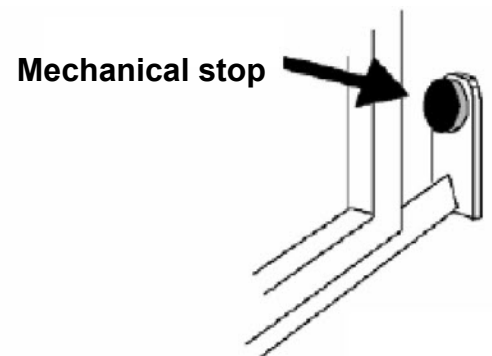
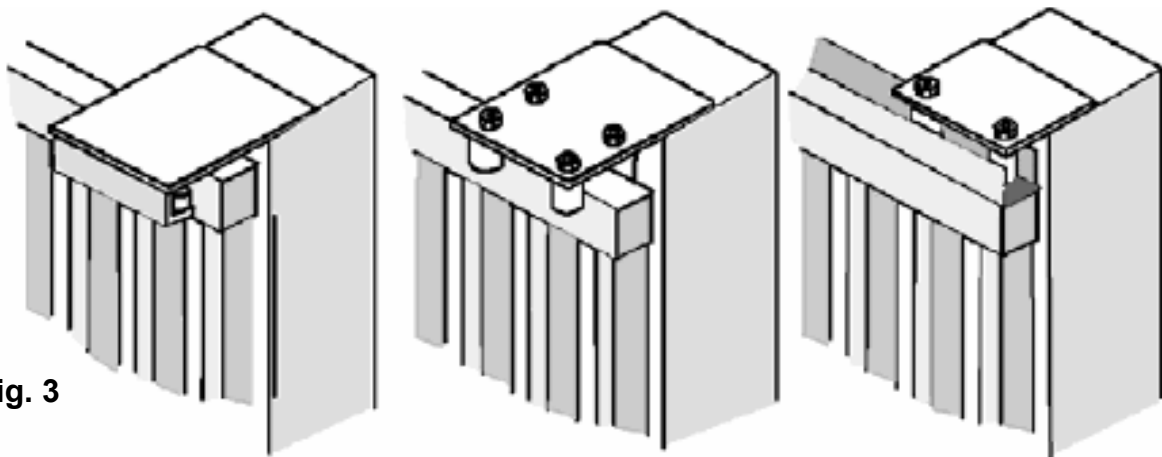
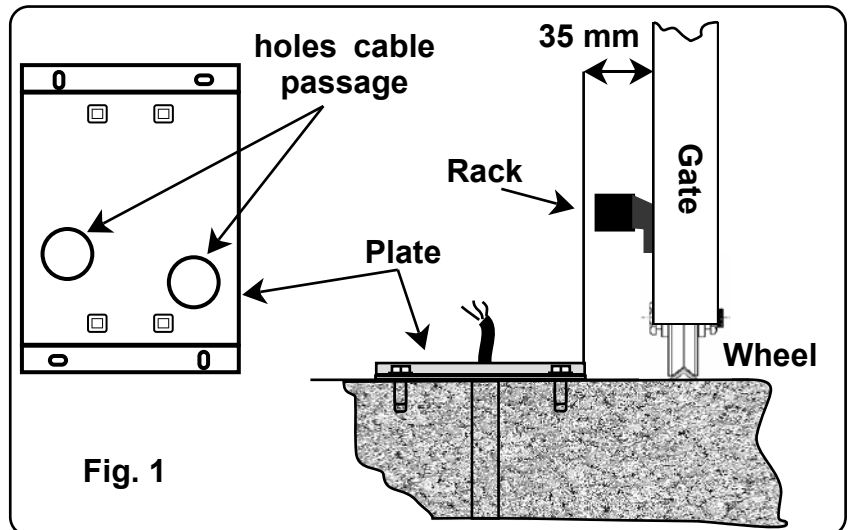

Fig. 2
Fig. 3
Fig. 1
- Also check that the runner on the ground (**Fig. 1**) is not deformed, is perfectly level and that the mechanical stop is present on opening (**Fig. 2**) in order to **prevent** the gate from going beyond the upper runners (**Fig. 3**)
- Check the upper runner (see **Fig. 3**) is firm and the gate slides freely.
Position the plate provided **(Fig. 1) 35 mm/MAX** from the edge of the gate and perfectly square at an angle of 90°.